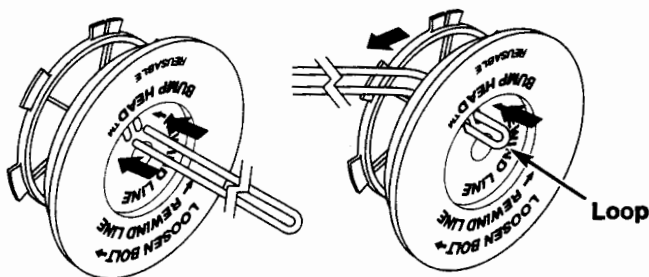

Fig. 31
- Take approximately 18 feet (6 m) of new trimming line, loop it into two equal lengths. Insert each end of the line through one of the two holes in the inner reel (Fig. 31). Pull the line through the inner reel so that the loop is as small as possible.